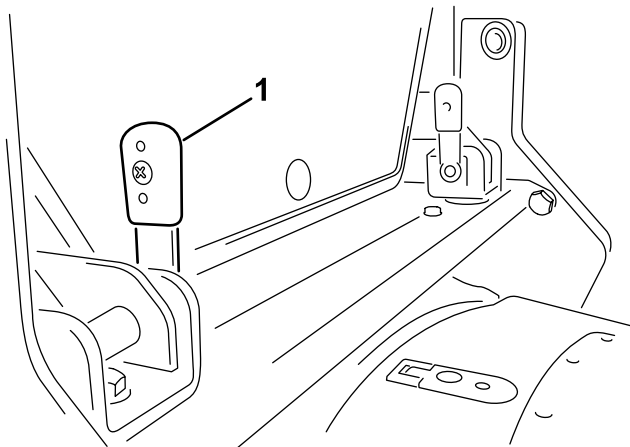

Figure 21
3. Rotate the latch-pin handles so that they point upward (Figure 21).